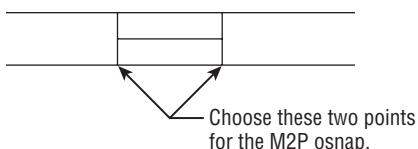

FIGURE 7.28 Select the two endpoints for the M2P osnap.
4. With the Endpoint osnap running, move the cursor to the lower end of the left window jamb (see Figure 7.28) and click when the Endpoint marker appears.